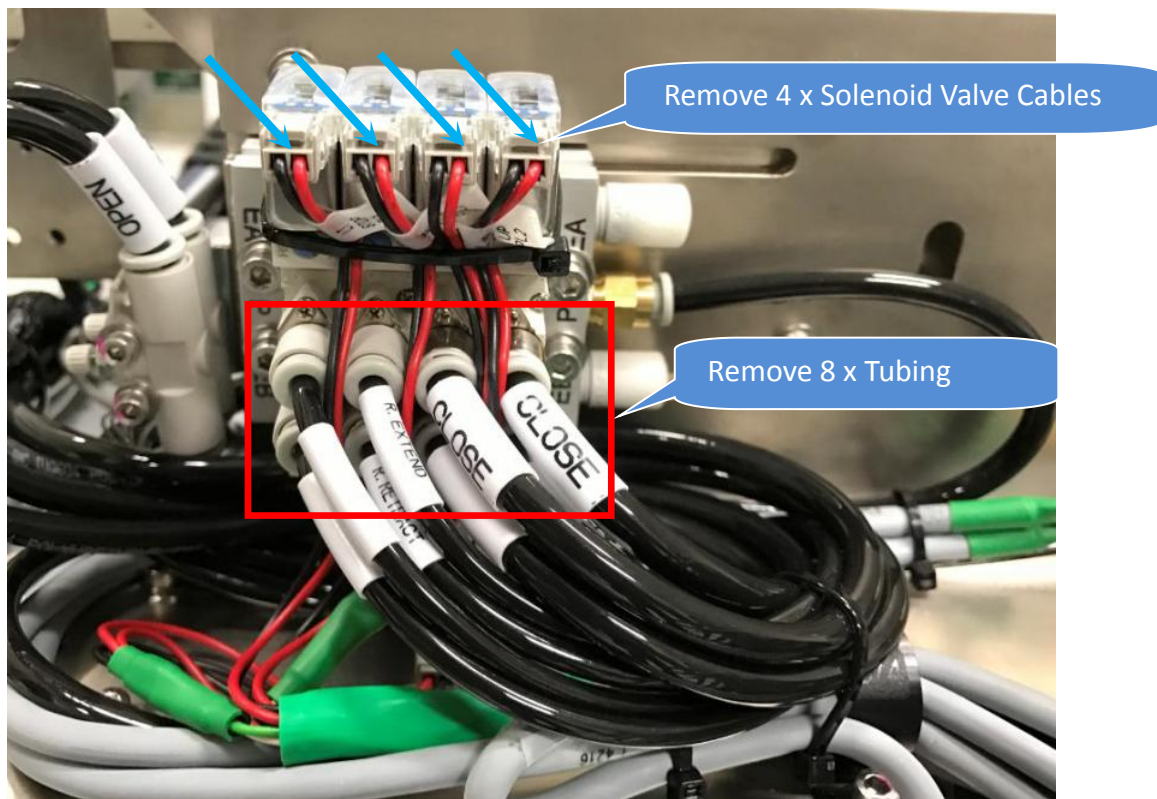

Figure 3 Cable & Tubing Removal
5. Disconnect 6 x Solenoid Valve Cables as Figure 3 & 4 .Remove 8 x tubing pull as below Figure 3.